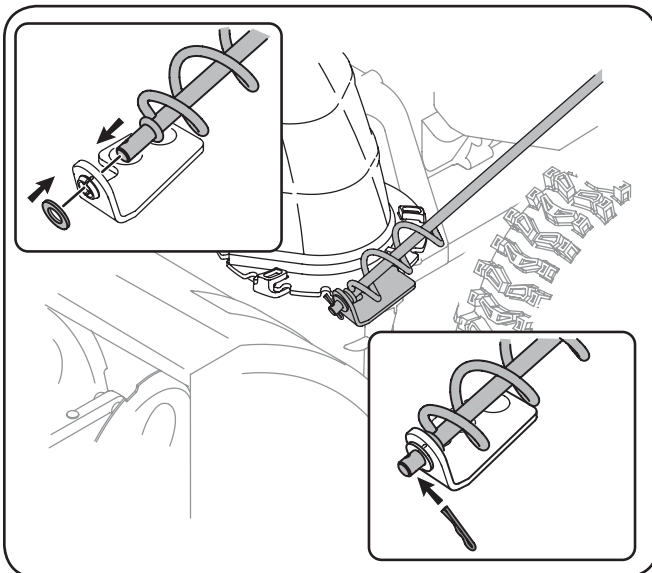

Figure 3-5
1. Remove the plastic cap (if present), flat washer and hairpin clip from the end of the chute directional control. See Fig. 3-5.